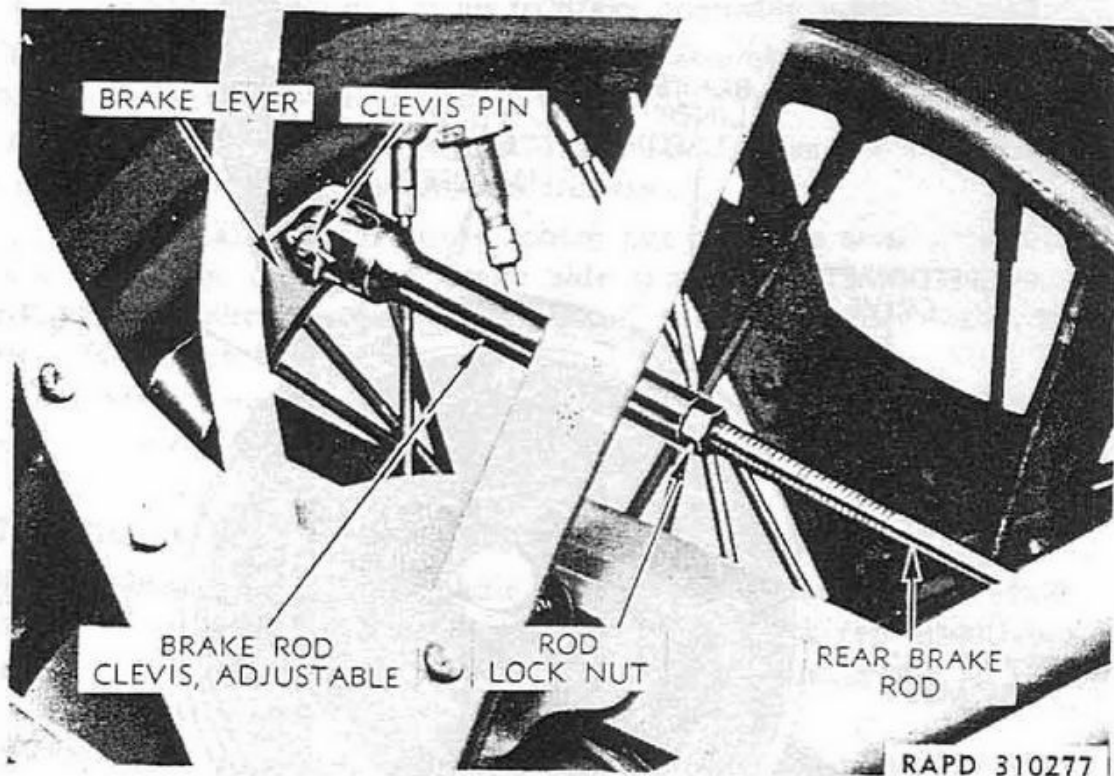

Figure 60—Rear Brake Adjustment
96. REAR WHEEL BRAKE (figs. 60, 61, and 62).
b. **Adjusting Rear Wheel Brake** (fig. 60). If brake operating lever stands ahead of vertical position, excessive lining wear is indicated. Brake shoes must be replaced (steps c and d below). Normal free play of brake foot pedal before brake operation is 1 inch. After brake takes effect in vehicle operation, brake foot pedal should have 1-inch reserve travel before bottoming on footboard. If brake foot pedal operation does not come within these limits, adjust rear brake rod as follows:
- (1) Remove cotter pin, plain washer, and clevis pin from end of rear brake rod clevis.
- (2) Loosen clevis lock nut on brake rod.